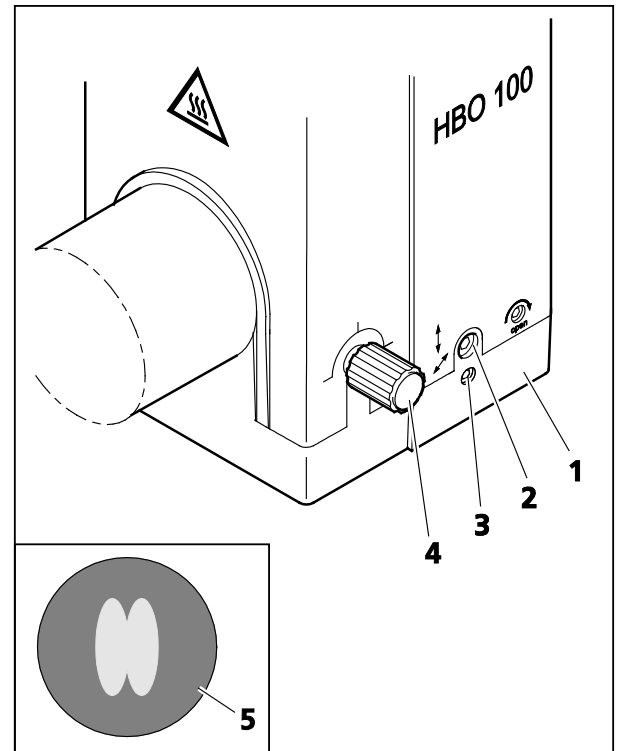

Fig. 3-18 Adjusting HBO 100
The procedure to follow in manually setting the HBO 100 (Fig. 3-18/1) is described below:
- Using the knurled knob (Fig. 3-18/4), focus the collector until the brighter of the arcs is sharply defined.
- Position the light arc and the mirror image parallel to one another (as shown in Fig. 3-18/5) with the aid of ball-headed screwdriver SW 3 and the height (Fig. 3-18/2) and lateral adjustment (Fig. 3-18/3) screws, respectively. The light arc and the mirror image should overlap by one third.